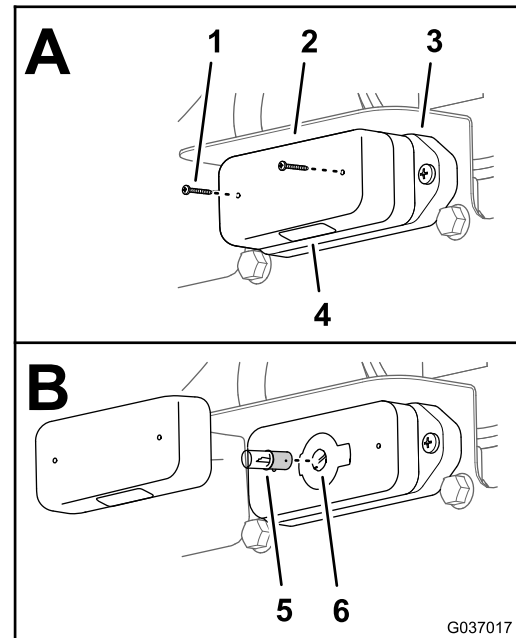

Figure 76
1. Remove the 2 screws that secure the cover to the base of the license-plate light, and remove the cover (A of Figure 76).
2. Push down the bulb slightly and rotate it counterclockwise until it is unlocked from the light socket, and remove the bulb (B of Figure 76).
3. Insert the new light bulb into the bulb socket (B of Figure 76).
4. Press down the bulb slightly and rotate it clockwise until the bulb locks into the socket (B of Figure 76).
5. Align the cover to the base of the license-plate light with the lens down (A of Figure 76).